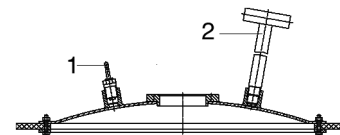
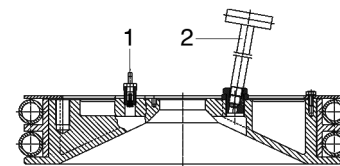

fig. 9.2.1 Follow cover, large (200 ltr tank)
fig. 9.2.3 Follow plate, large (200 ltr tank)
- Attach the follow plate (Fig. 9.2.3 and 9.2.4) respectively the follow cover (Fig. 9.2.1 and 9.2.2) to the ram or directly to the extrusion pump.
- Connect the air hose of the ram to the hose spout (Fig. 9.2.1 to 9.2.4, Item 1) on the follow plate / follow cover.
- Loosen the locking toggle (Fig. 9.2.1 to 9.2.4, Item 2) from the ventilating housing of the follow plate / follow cover.
- Screw the locking toggle (Fig. 9.2.1 to 9.2.4, Item 2) back into the ventilating housing of the follow plate / follow cover as soon as material protrudes from the opening.
- Make sure that the air hose has been properly connected to the hose spout (Fig. 9.2.1 to 9.2.4, Item 1) on the follow plate / follow cover.
- Screw the locking toggle (Fig. 9.2.1 + 9.2.2, Item 2 and Fig. 8.2.3 + 8.2.4, Item 2) off the sequence plate / sequence cover to let the air go out.
- Screw the locking toggle (Fig. 9.2.1 + 9.2.2, Item 2 and Fig. 8.2.3 + 8.2.4, Item 2) back into the sequence plate / sequence cover as soon as the material protrudes.